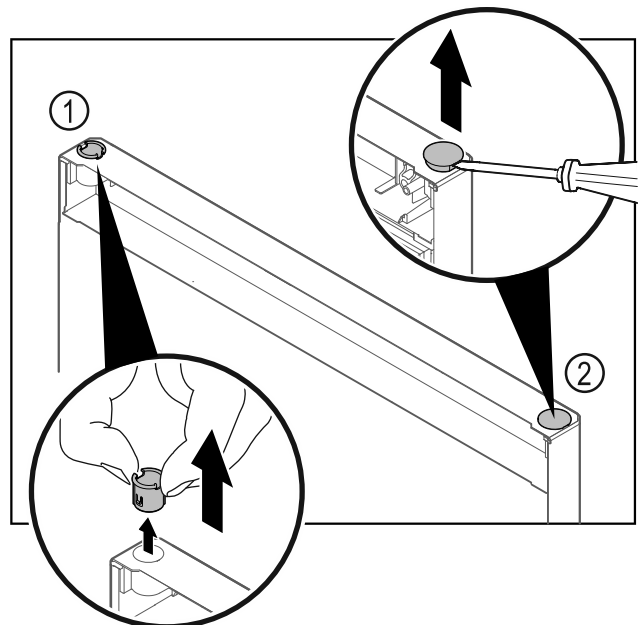

Fig. 18 Fridge compartment door
- ▶ Pull out the hinge bushing Fig. 18 (1) with your fingers.
- ▶ Carefully lift the cover plug Fig. 18 (2) with a slotted screwdriver and pull it out.